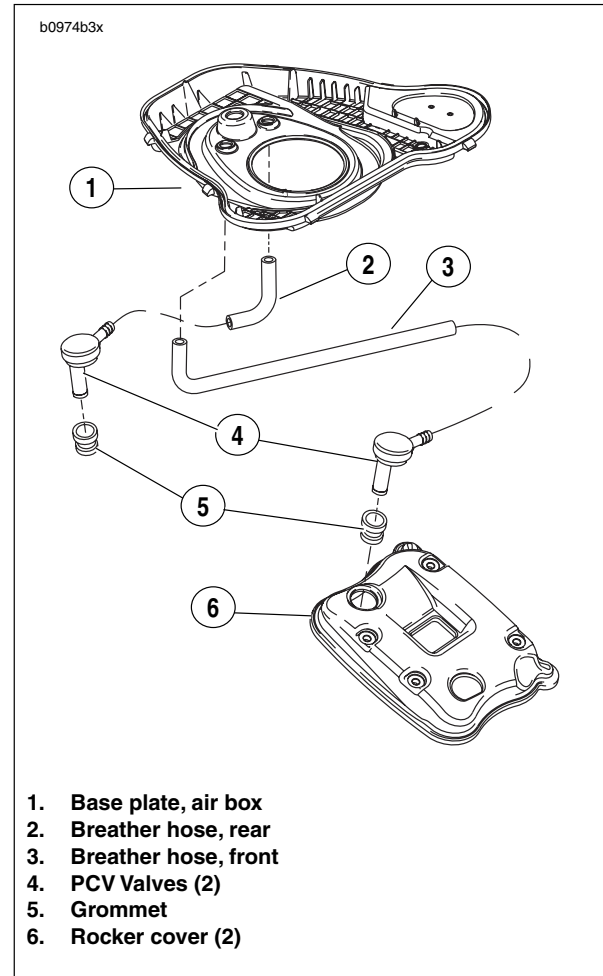

Figure 3-115. Crankcase Breathing System,
See Figure 3-115. Air is allowed to escape the rocker boxes by exiting the positive crankcase vent (PCV) valves (4) located on top of the rocker boxes. From the PCV valves the air enters the crankcase breather hoses (2 & 3). The crankcase breather hoses route through the air cleaner base plate (1) to the air box where it is directed inside the air filter element and back into the engine.